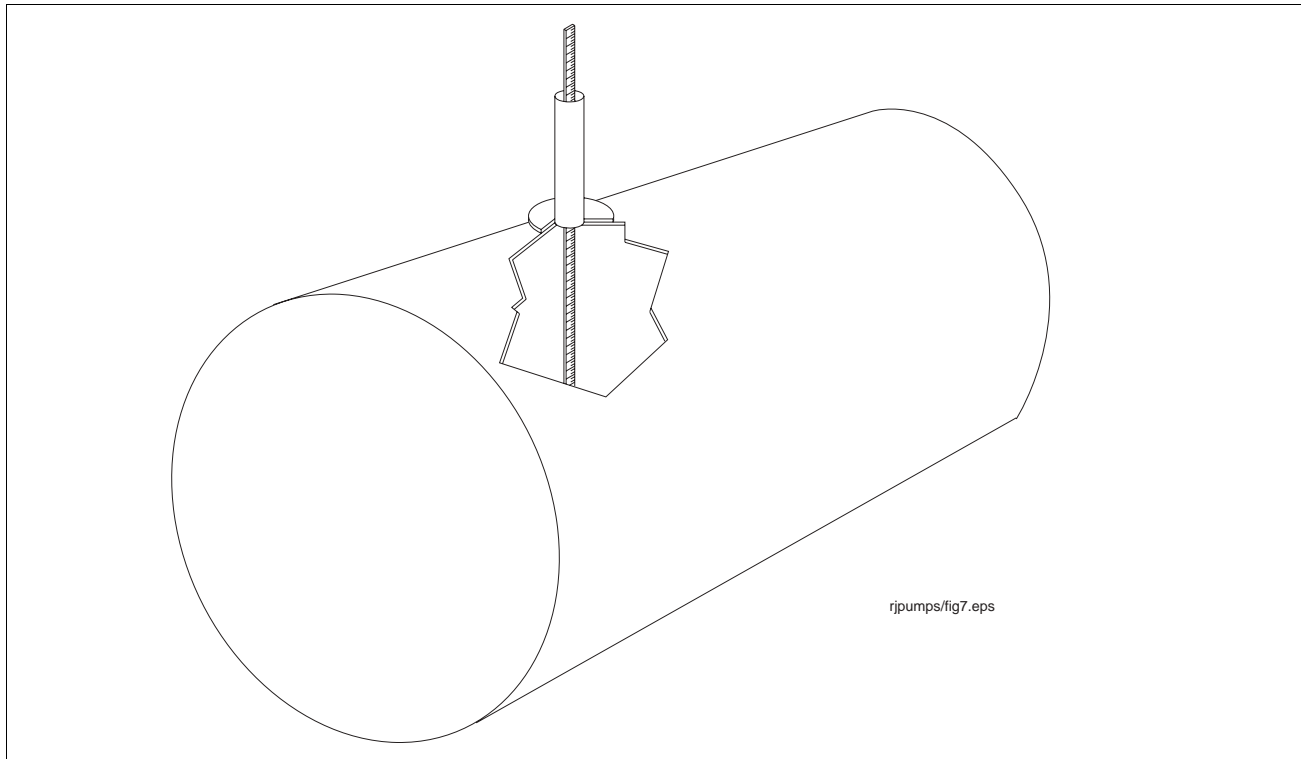

Figure 9. Measuring tank
2. Measure the distance from the bottom of the tank to the top of the 4-inch riser pipe as shown in Figure 9.